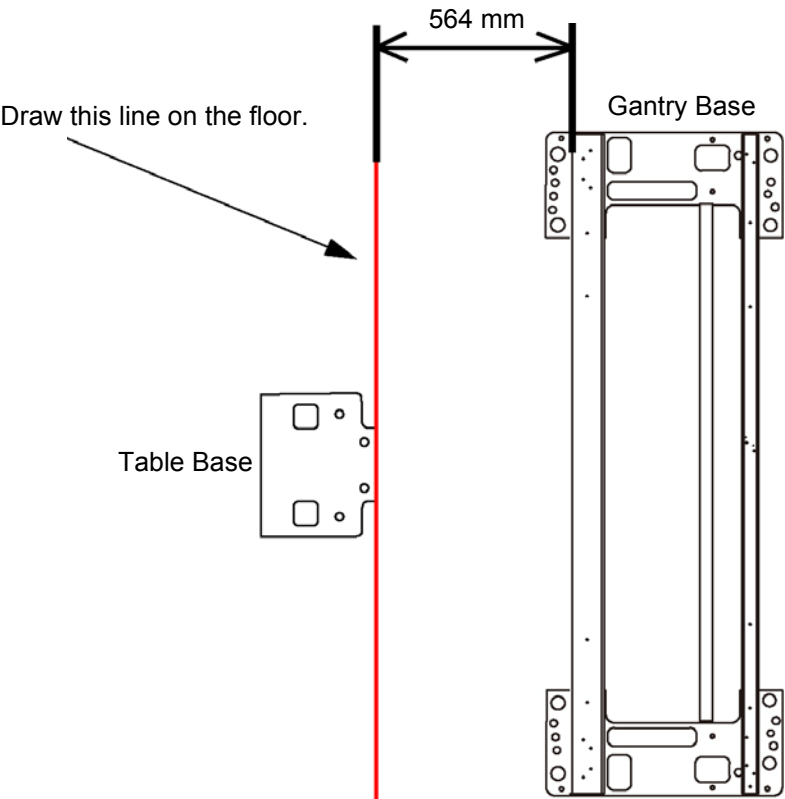

Figure 1-38 Draw Reference Line
- 1.) Draw a reference line of 564mm position from Gantry Base on the floor as shown in the Figure 1-38.
- 3.) Check that table base is centered over the table center line, and the base is on the 564mm line made on the floor, see Figure 1-38.